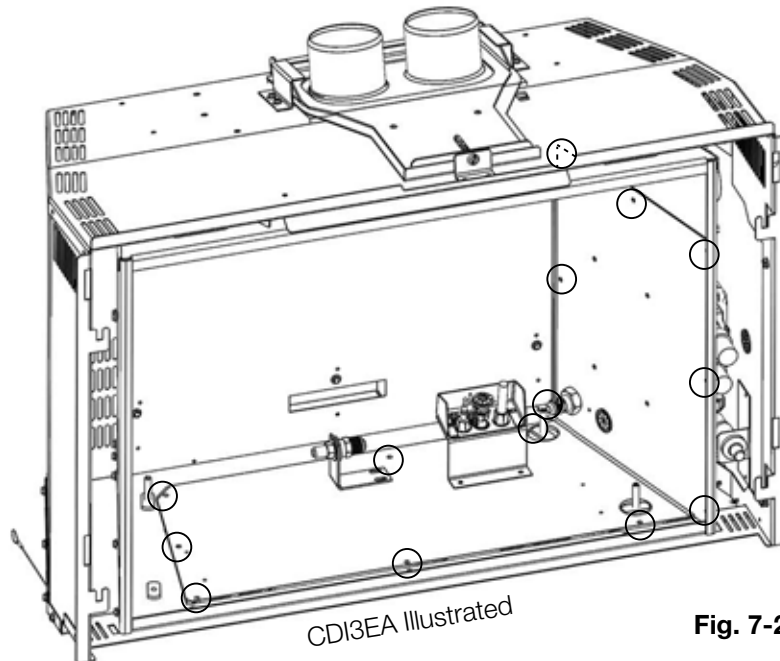

Fig. 7-2
- D.** Remove the 14 screws holding the valve train in place (**Fig. 7-2**).